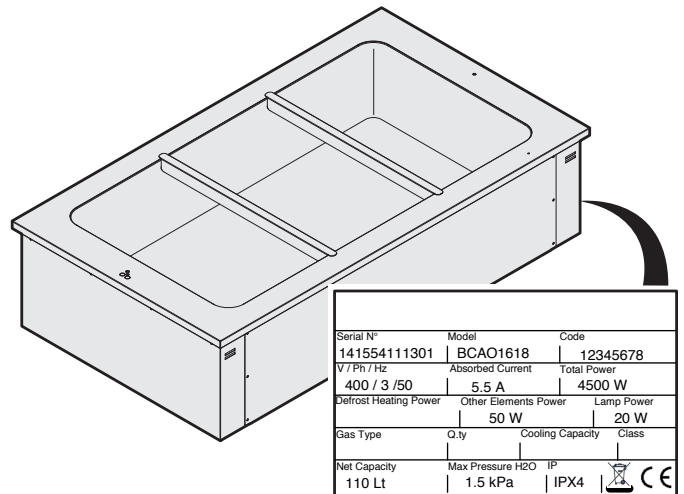

Fig. 1
- take note of the equipment data found on the rating plate (Fig. 1);